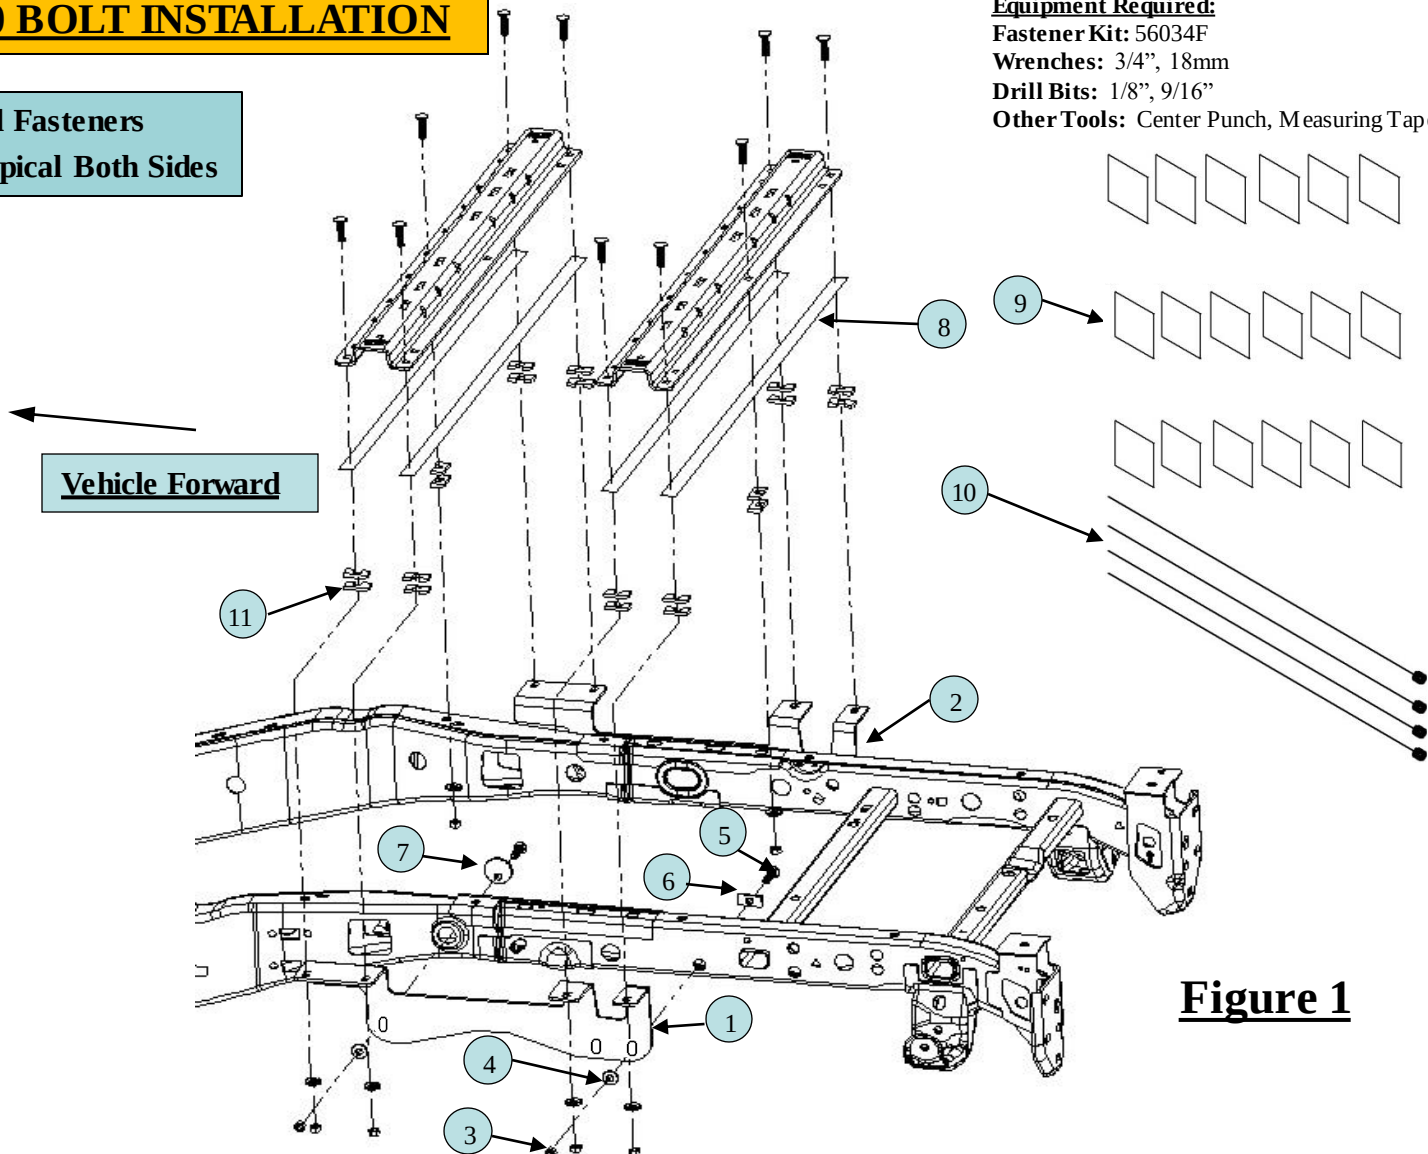

Figure 1
2. Place the galvanic isolator strips (8) on the bottom surface of rail to protect aluminum truck bed as shown in Figure 1.
5. Loosely install the frame brackets (1) & (2) using the appropriate hardware and hand tighten. (See Figure 1)
- Install the 1/2" conical washer (4) and 1/2" nut (3) and hand tighten.
- For the forward mounting hole, insert the coiled end of the pull wire (10) through the 1-1/2" diameter mounting hole on the side of the truck frame and out through the large oval access hole on the inside of the frame.
- Slide the circle block (7) over the coiled end of the bolt leader and attach the 1/2" x 1.75" carriage bolt (5).
Note: It is important that the square hole in the circle block (7) sits at the bottom of the mounting hole on the frame as shown in Figure 1. The circle block (7) should fit inside embossment in truck frame.
- With the other end of the pull wire (10), thread it through the back side of the frame bracket (1) & (2) and gently pull on the end of the pull wire (10) so that the hardware moves through the frame and into position in the frame bracket.
6. Check that the 1/8" drilled holes from step 4 align with the slots of the frame bracket (1) & (2).